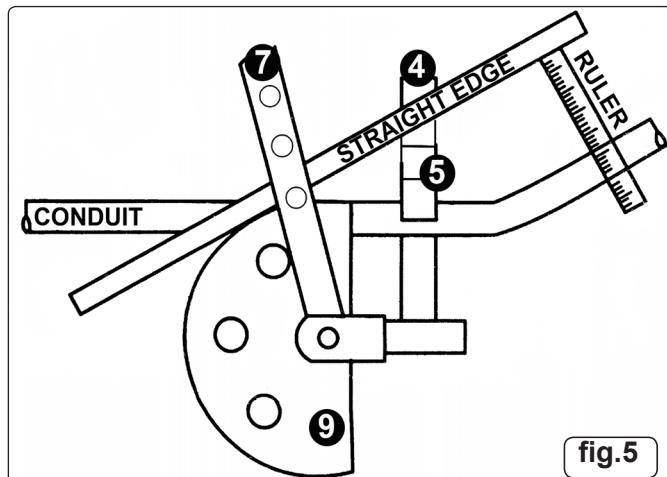

fig.5
- 5.5.2. Place the bend in the machine as shown in fig.5. Place a straight edge against the outer edge of the former (9) and parallel to the bend. Adjust the conduit in the machine until the required measurement is obtained.